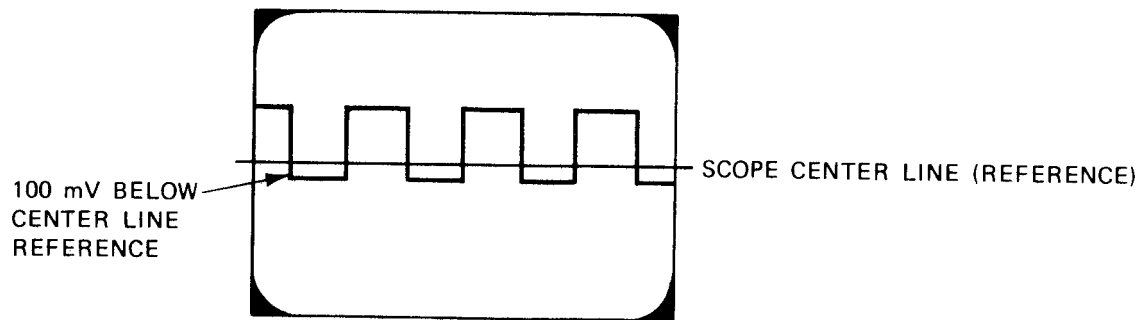

FIGURE 2
- Adjust pulse generator offset so the bottom of the pulse is 100 millivolts below center reference line (see Figure 2).